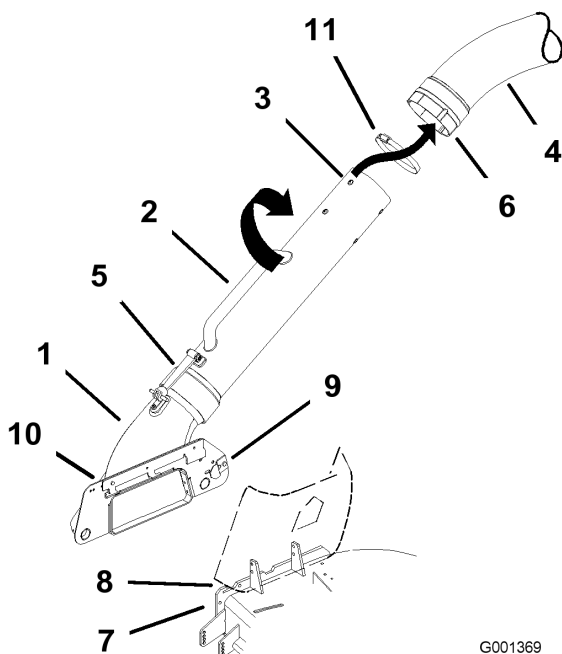

Figure 34
3. Unlatch the middle tube from the boot and slide apart (Figure 34).
4. Remove the tube assembly from the bagger (Figure 34).
5. Remove the boot from the mounting bracket (Figure 34).